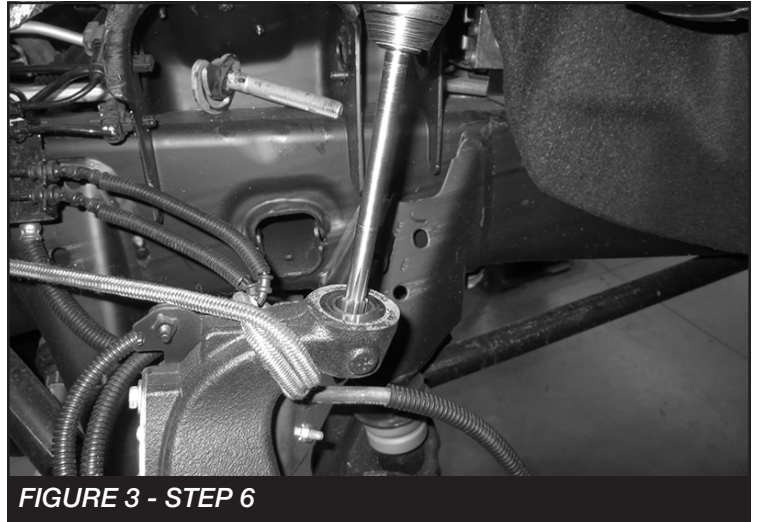

FIGURE 3 - STEP 6
6. **NOTE: If installing on a vehicle with an aftermarket knuckle skip this step. Only perform this step on a factory knuckle.** Drill out the factory upper knuckle taper to 9/16" **SEE FIGURE 3**